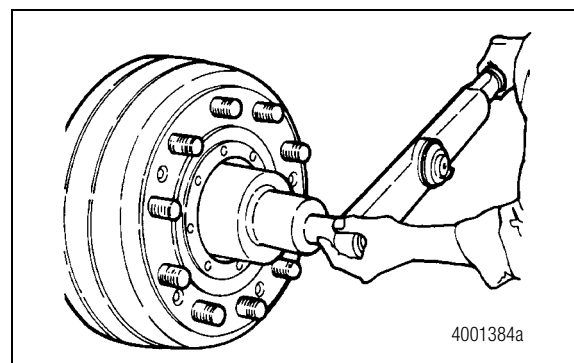

Figure 3.9
3. If equipped, straighten the stamped retainer from the outer wheel bearing nut. Remove the outer wheel bearing nut, stamped retainer, lock washer and inner wheel bearing nut from the spindle. Figure 3.9.